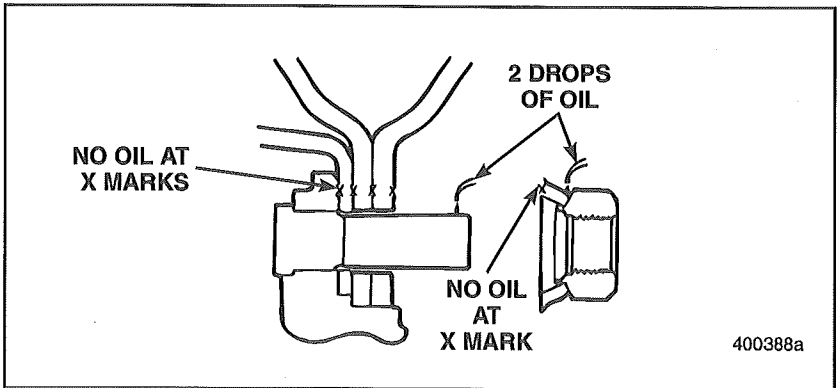

Figure 81 — Flanged Nut Installation
Dual Disc Wheels (Stud Piloted Ball Seat) — Loosen outer wheel nuts first, then tighten the inner nuts in sequence shown (Figure 81) to the specified torque value given in table on page 223. After inner nuts are tightened, tighten outer wheel nuts, in sequence, to the specified torque value.
3. Starting at the top stud position, partially torque the nuts in the sequence as shown in the illustration Figure 81.